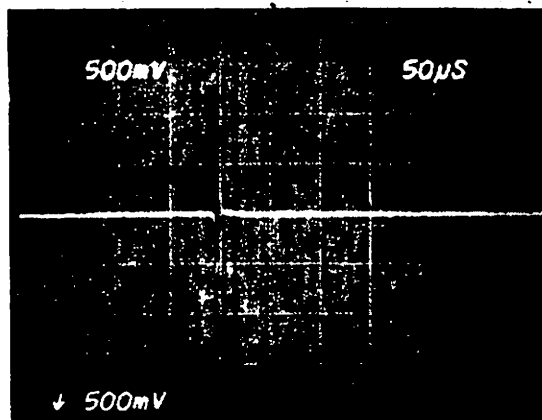

FIGURE 8 INDEX TIMING
- f. Observe the timing between the start of the sweep and the first data pulse. This should be 200  $\mu$ sec  $\pm$  50  $\mu$ sec. If the timing is not within tolerance, continue on with the adjustment. Reference Figure 8.